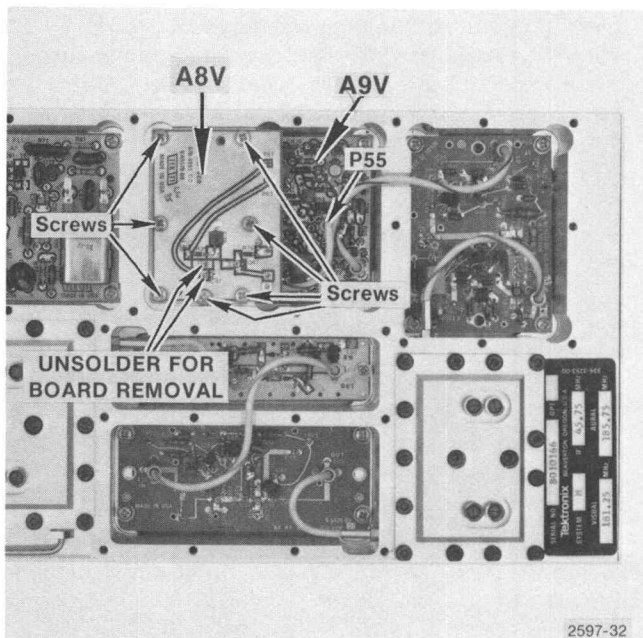

Fig. 5-7. Removing the VHF VCO board, A8V.
Removing the VHF VCO Board (A8V) (see Fig. 5-7).
4. Carefully unsolder the two circuit-board pads shown in Fig. 5-7. Do not touch the chip capacitor, C47, with the iron.